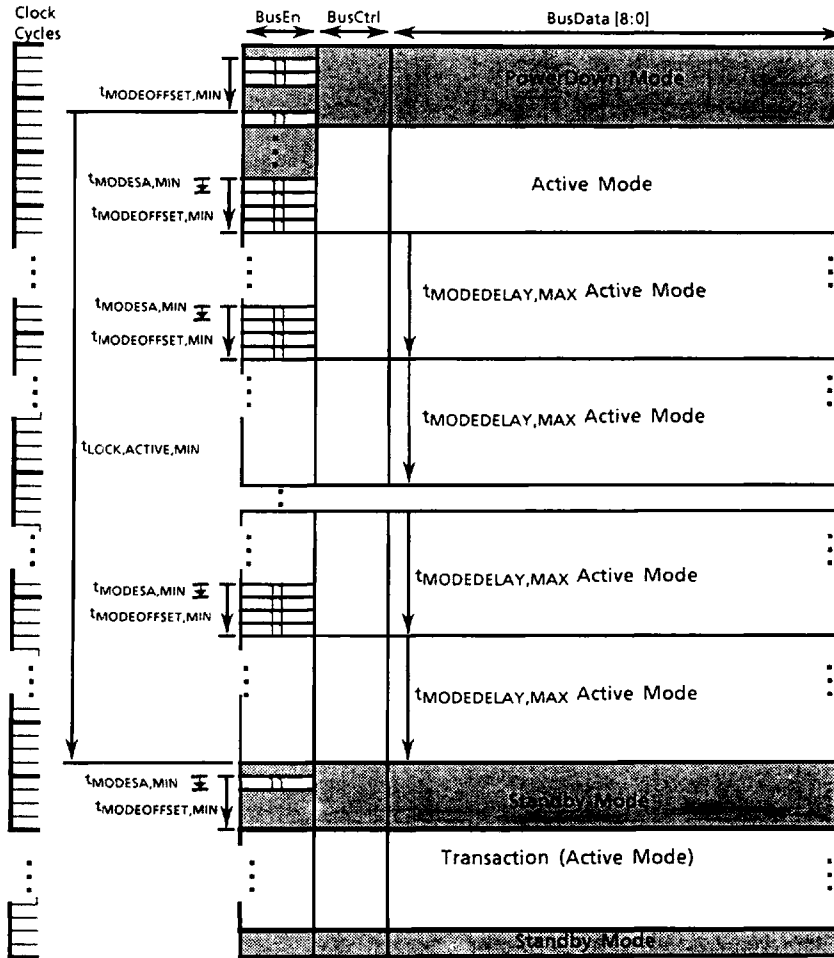

Figure 28. PowerDown Mode to Active Mode Transition
- When these operations have been completed, the RDRAM is in the Powerdown Mode. Figure 28 shows the PowerDown Mode to Active Mode transitions.